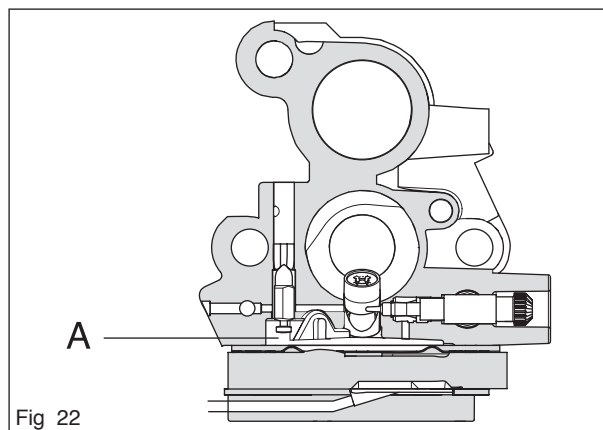

Fig 22
The jets and the fuel's control functions are located in the metering unit (A). Here the correct quantity of fuel is adjusted for the actual speed and power output (see figure 22).